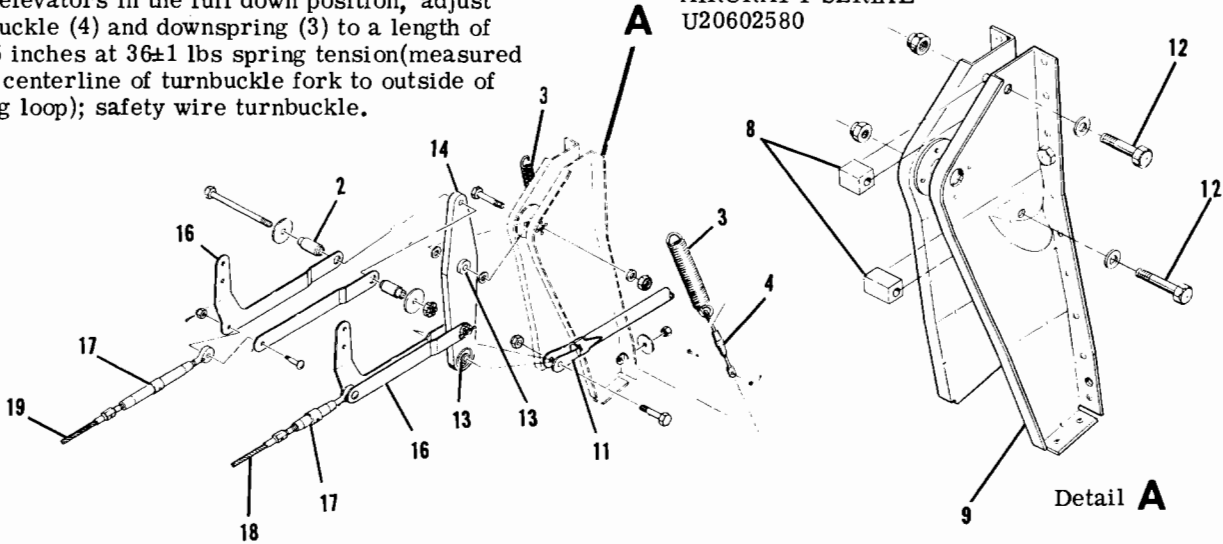

Figure 8-3. Elevator Bellcrank Installation
8-8. BELLCRANK. (Refer to figure 8-3.)
- b. Remove safety wire and relieve cable tension at turnbuckles (10).
- c. Disconnect cables at control column arm assemblies (3).
- d. Disconnect cables at bellcrank links (index 16, figure 8-3).
8-14. RIGGING. (Thru U20602579) (Refer to figure 8-3.)